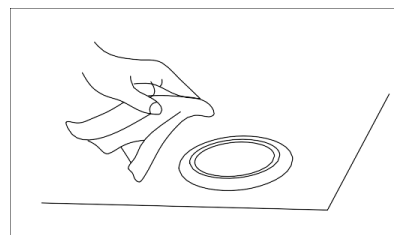

Figure 6
5. Clean the surface of the light outlet of the lamp (Figure 6).